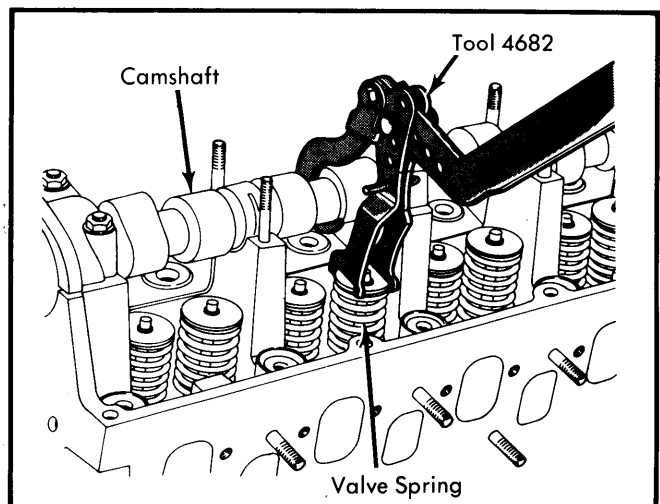

Fig. 4 Removal and Installation of Valve Spring Assembly
3) Remove spark plug and install air line adapter to spark plug port and apply 90-120 psi air pressure to hold valves closed. Install spring compressor tool (4682 or equivalent) and compress valve spring. See Fig. 4.